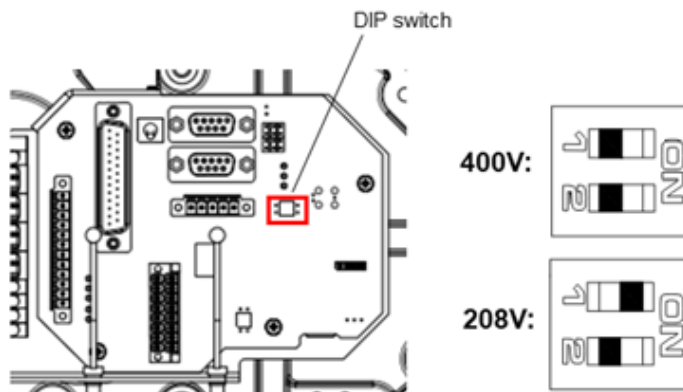

Figure 32. Voltage DIP switch
3. Reposition the DIP switch as shown in Figure 32.